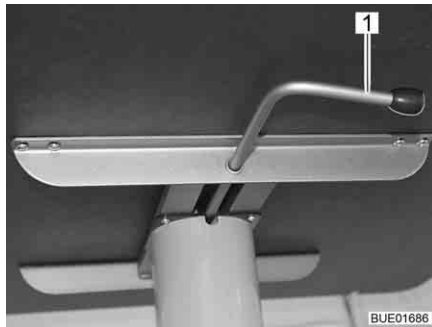

Fig. 73 Lift-off table
- Swivel the catch lever (Fig. 73,1) to the left. The lock of the lifting mechanism is open.
- Swivel the catch lever (Fig. 73,1) to the right (Fig. 73). The lifting mechanism is locked.
- Swivel the catch lever (Fig. 73,1) to the left. The lock of the lifting mechanism is open. The table-top moves upwards to the limit stop.
- Swivel the catch lever to the right (Fig. 73). The lifting mechanism is locked.